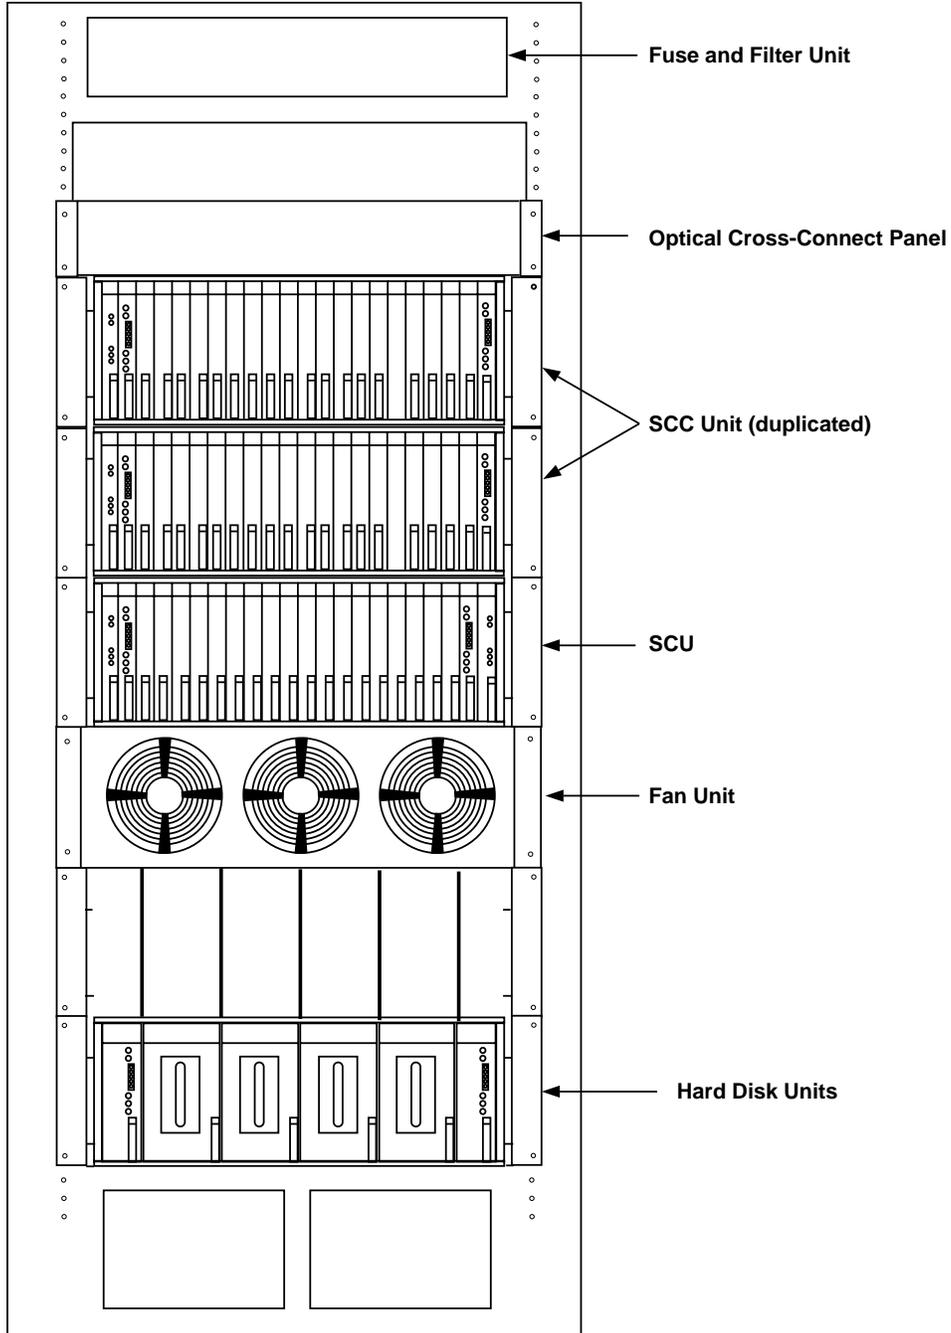

Figure 2. SCC Cabinet (J4A024A-1) — Equipment Identification
- SCC Cabinet (J4A024A-1) — Equipment Identification (Figure 2)